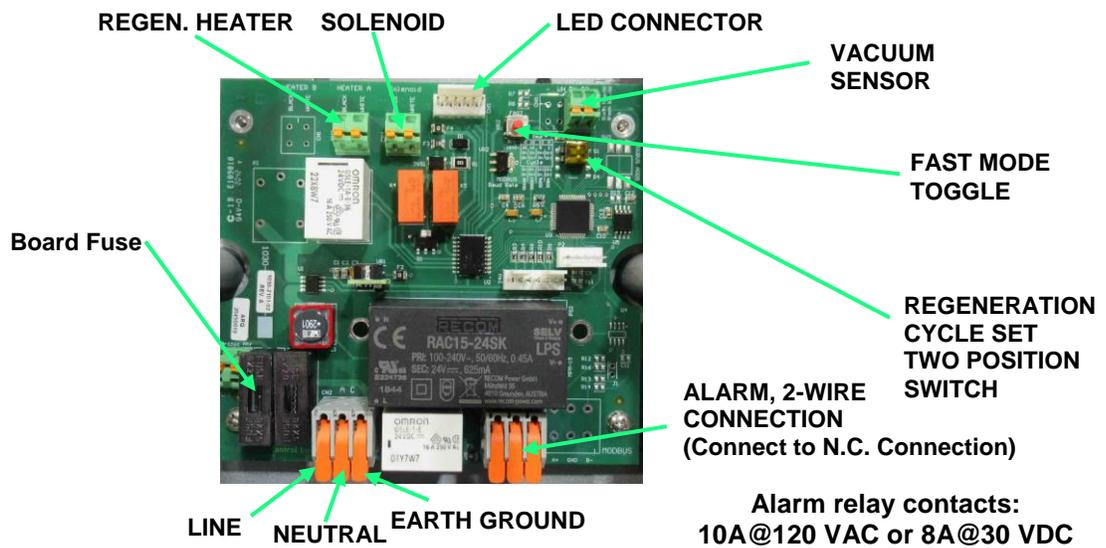

Figure 4 – SCB Alarm and Power Connections
8. Run the appropriate electrical alarm wiring (if monitored) and connect per Figure 4 on page 11.
Remotely Monitored Alarm Indications (see Figure 4 on page 11 for wiring)